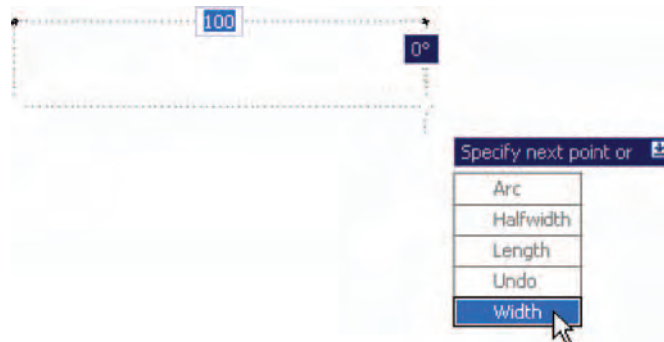

Fig. 3.27 Dynamic Input – first example – Polyline – click Width in the pop-up menu
3. Move the cursor and press the **down** key of the keyboard. A pop-up menu appears from which a prompt selection can be made. In the menu click **Width** (Fig. 3.27).